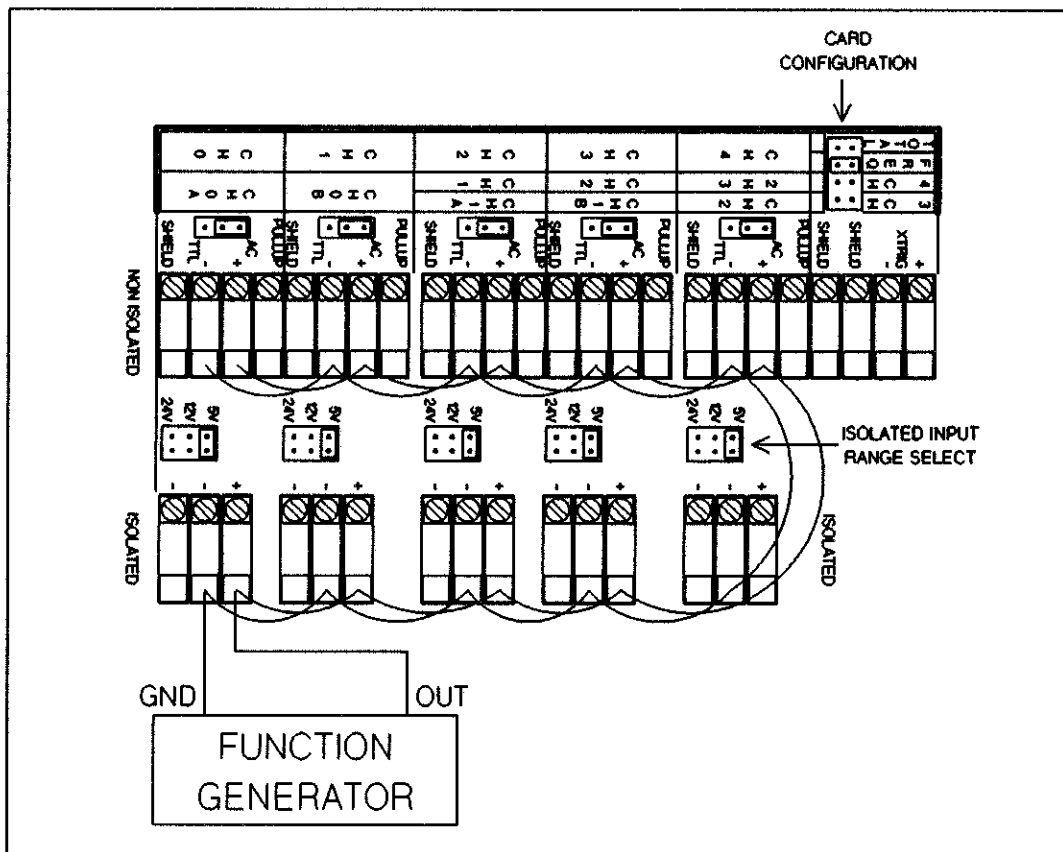

Figure 11-6 Non-Isolated AC Input Test
20. Set the Non-Isolated Input jumpers to AC, as shown in Figure 11-6.